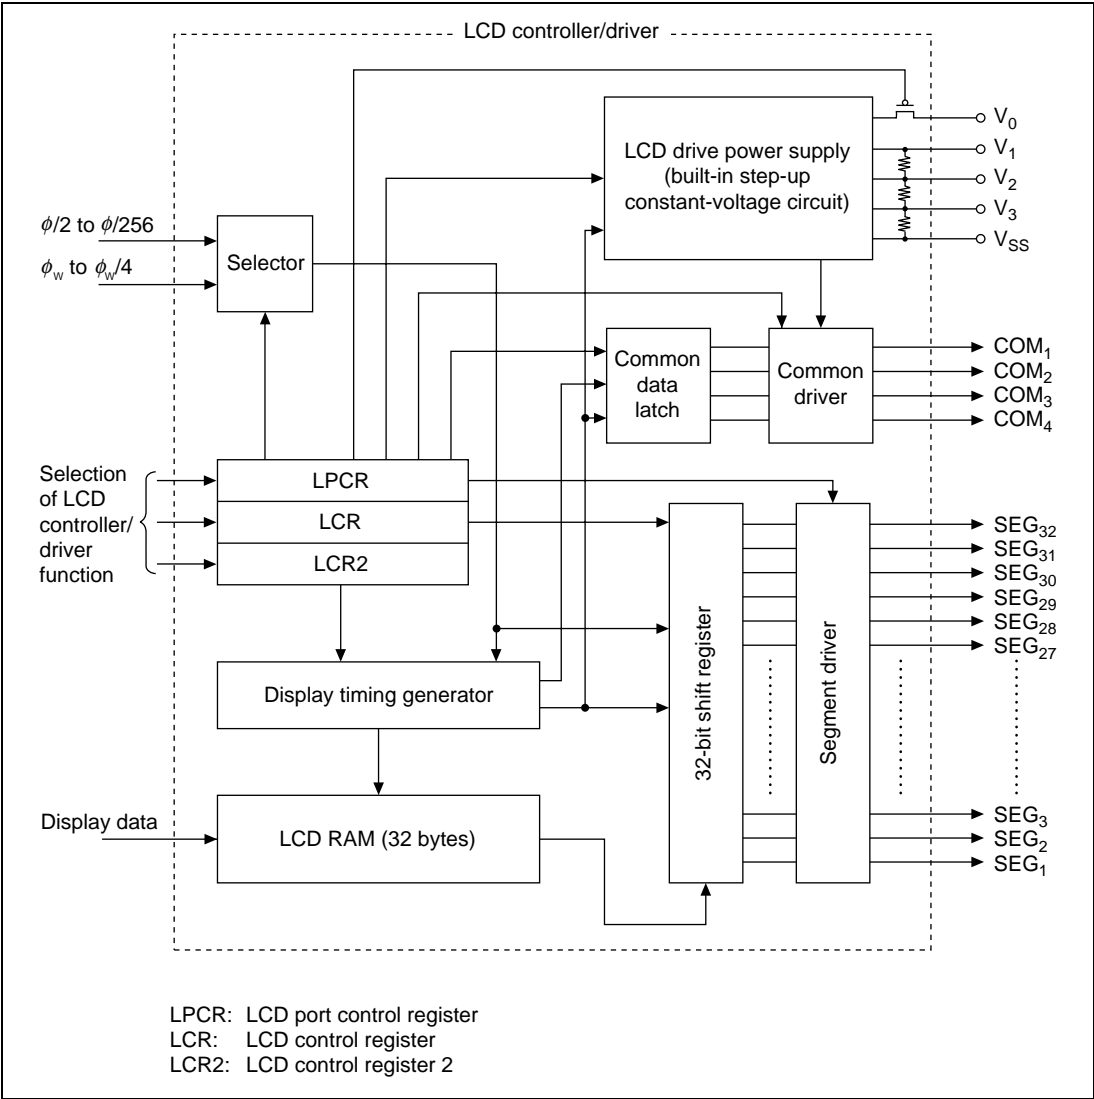

Figure 2 Block Diagram of LCD Controller/Driver (LCD Display with Static Duty)
2. Figure 2 is a block diagram of the LCD controller/driver used in this task examples.